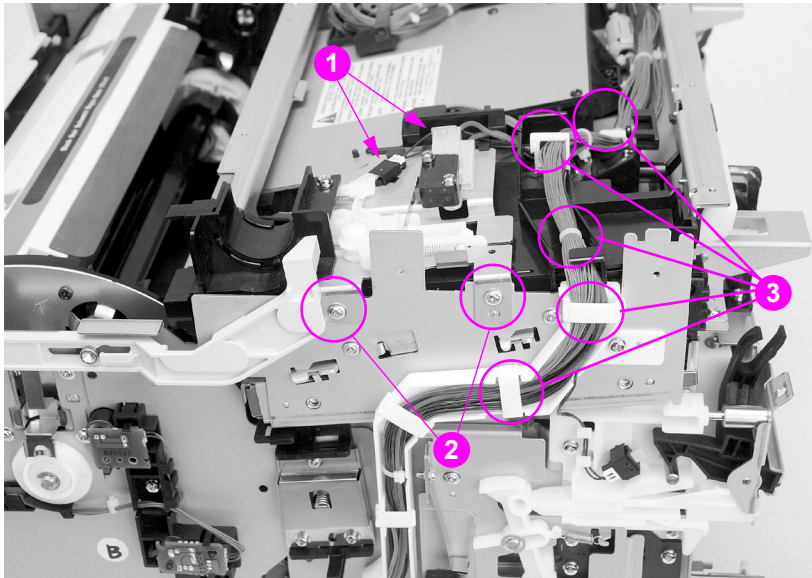

Figure 6-18 Top cover switch assembly removal and replacement
- 4 Disconnect the sensor and switch cables from the top cover switch assembly (callout 1, Figure 6-18 on page 162).
- 2 Remove the two screws from the top cover switch assembly (callout 2, Figure 6-18 on page 162).
- 2 Free the cables from the five cable stays (callout 3, Figure 6-18 on page 162).